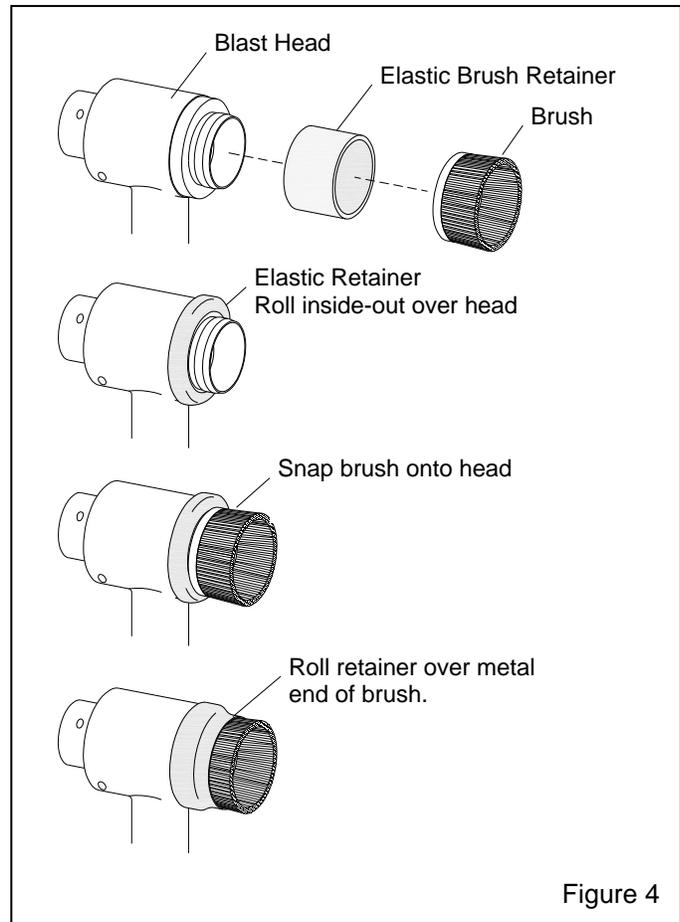

Figure 4
#### 3.3 Select Brush and Attach to Head, Figure 4
3.3.2.3 Roll the elastic over the end of the brush to secure, as shown in Figure 4.